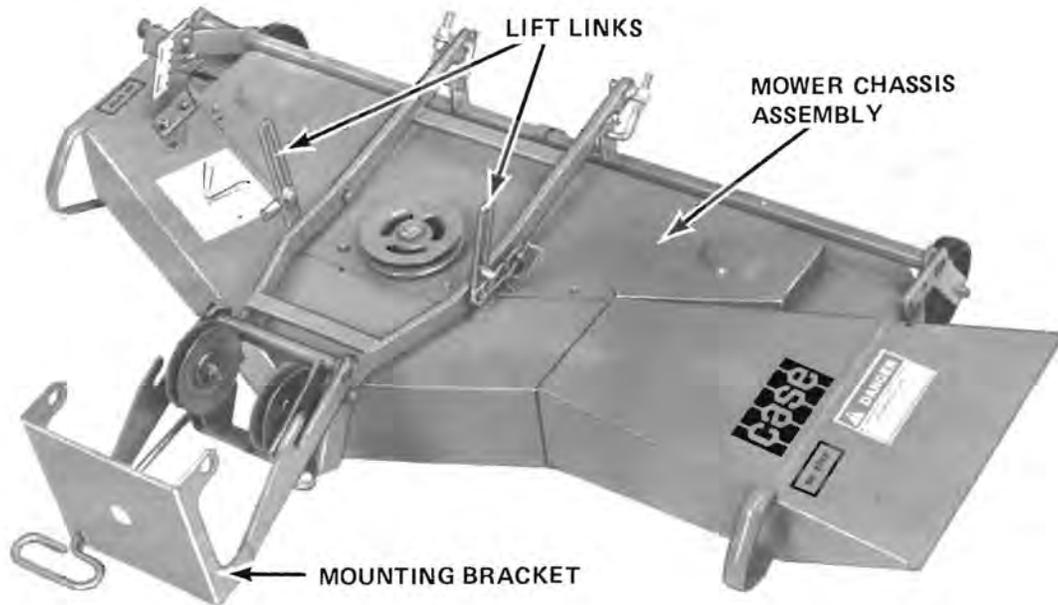

FIGURE 13 MODEL K44 ROTARY MOWER - ASSEMBLED
3. Use cotter pins to fasten the lift links to the mounting bracket. See Figure 13.
NOTE: Do not assemble the mounting bracket to the lawn mower chassis as shown in Figure 13. It is easier to first install the mounting bracket on the tractor.